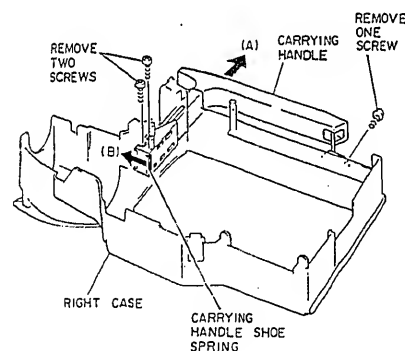

Fig. 2-8
2. Remove two (2) screws holding the carrying handle shoe. (See Fig. 2-8)
3. Remove one (1) screw holding the carrying handle.
4. While pulling the carrying handle shoe in the direction of arrow (B), remove the carrying handle in the direction of arrow (A).